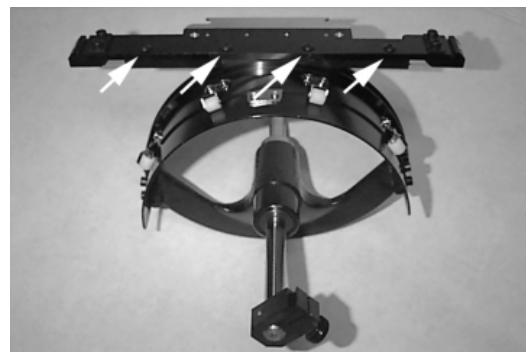

Figure 3-3
2. Loosen the four button-head screws across the top of the drive bracket (see Figure 3-3).